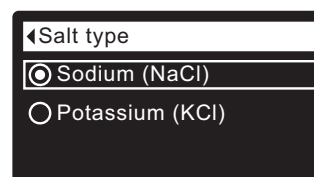

FIG. 42
5. Press the SELECT (O) button to display the Salt type menu (See Figure 42).
6. If the desired salt type already has a black dot next to it (See Figure 42), go to Step 7. Otherwise, press the conditioner's DOWN (▼) or UP (▲) buttons to scroll to the other salt type, then press SELECT (O) to choose it.
7. Press the SELECT (O) button. The display will go back to the Salt settings menu.